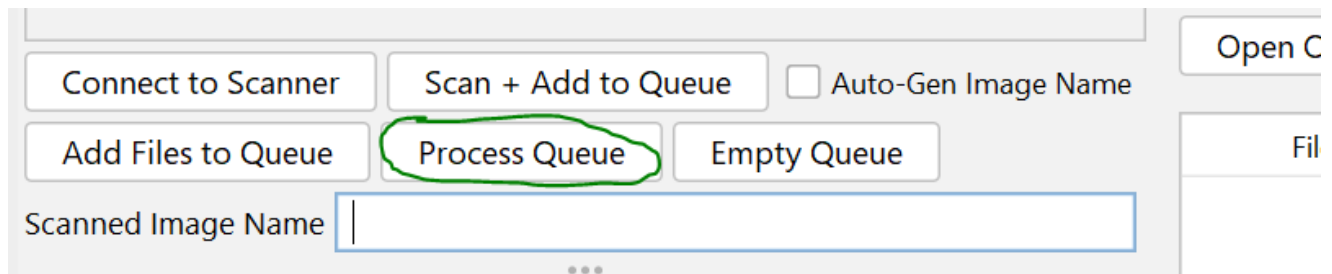

Figure 5
- 7) After your scans have been completed, click the “Process Queue” button in the software to get results. [See Figure 5]